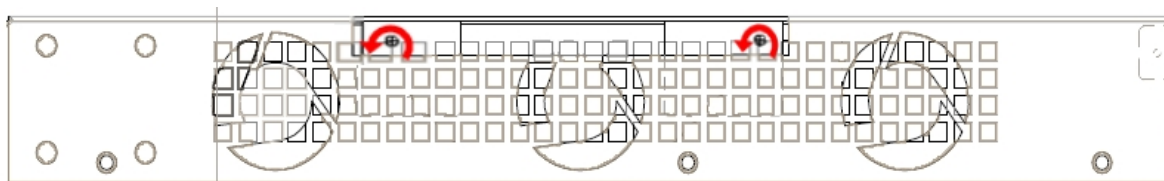

Fig. 29: Removing the screws of the top panel flap
- (1) Switch off the device and remove the data cables, as described in section Disconnecting on page 19.
- (2) Remove the device from the workplace and place it in a stable, safe location where it can be easily accessed and handled.
- (3) Remove the two screws from the side panel in order to be able to dismantle the flap that gives access to the MiniPoE card. Please see Fig. 29 on page 19.